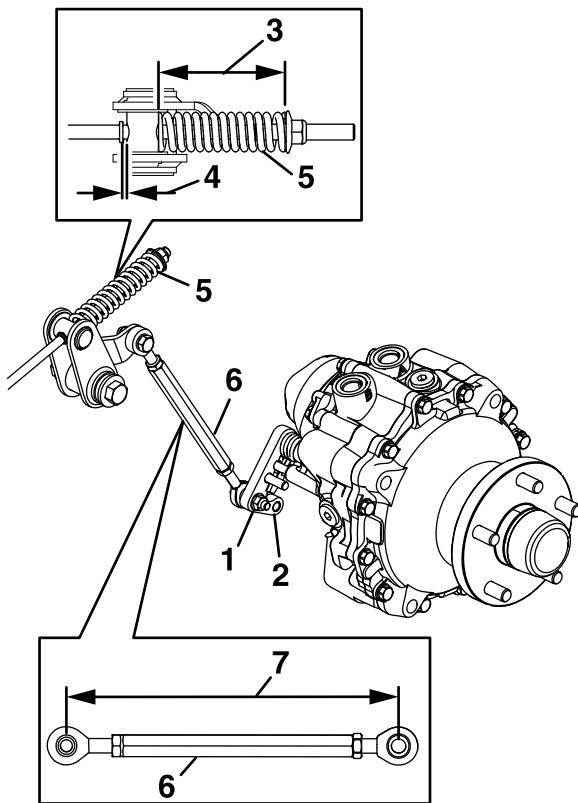

Figure 60
7. Measure the length of the link assembly (Figure 60).
8. Measure the length of the spring (Figure 60).